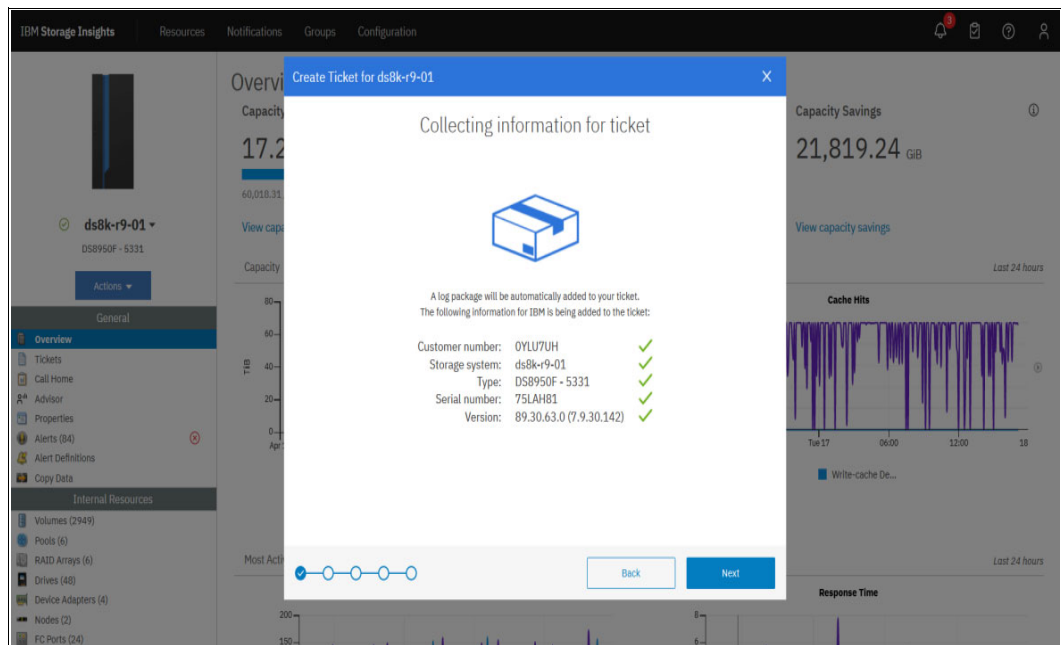
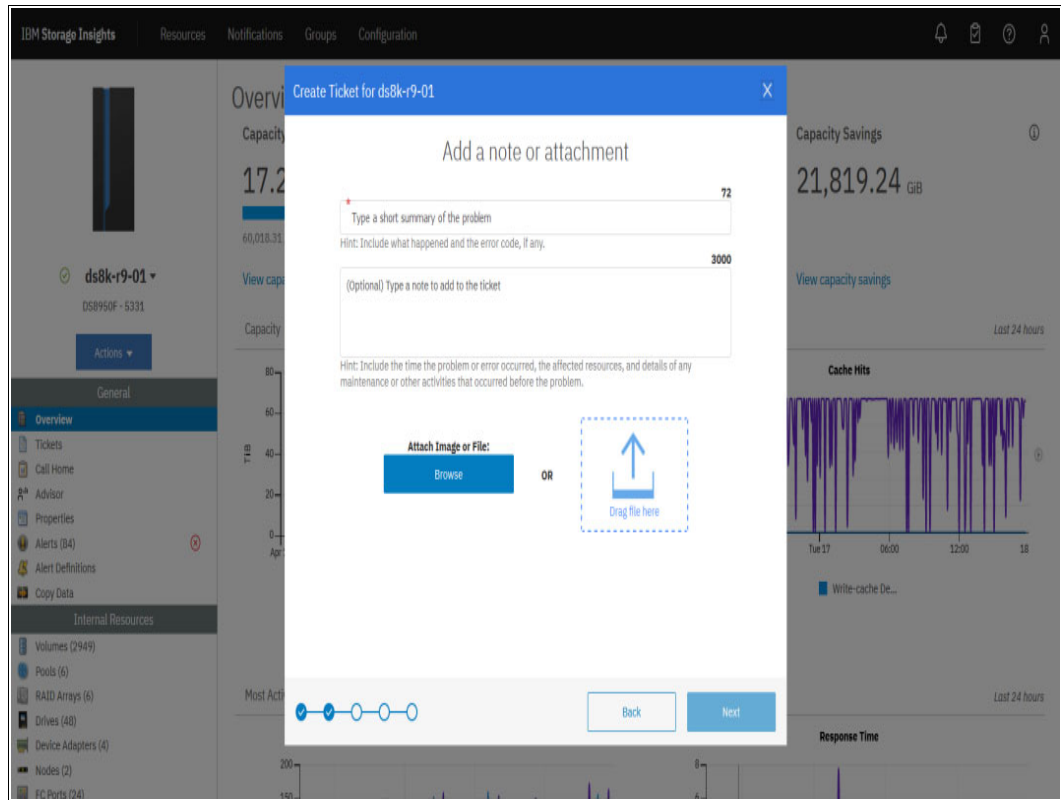

Figure 12-22 IBM Storage Insights: Collecting ticket information
Figure 12-23 IBM Storage Insights: Ticket summary
Figure 12-22 shows the process of collecting the needed ticket information, which includes the details of the DS8000 storage system.
- In Figure 12-22 on page 454, click **Next**. In the window that opens, you describe the reason for opening the ticket with IBM. The mandatory field for the summary is limited to 72 characters. Figure 12-23 shows an optional field that you can use to provide more details.